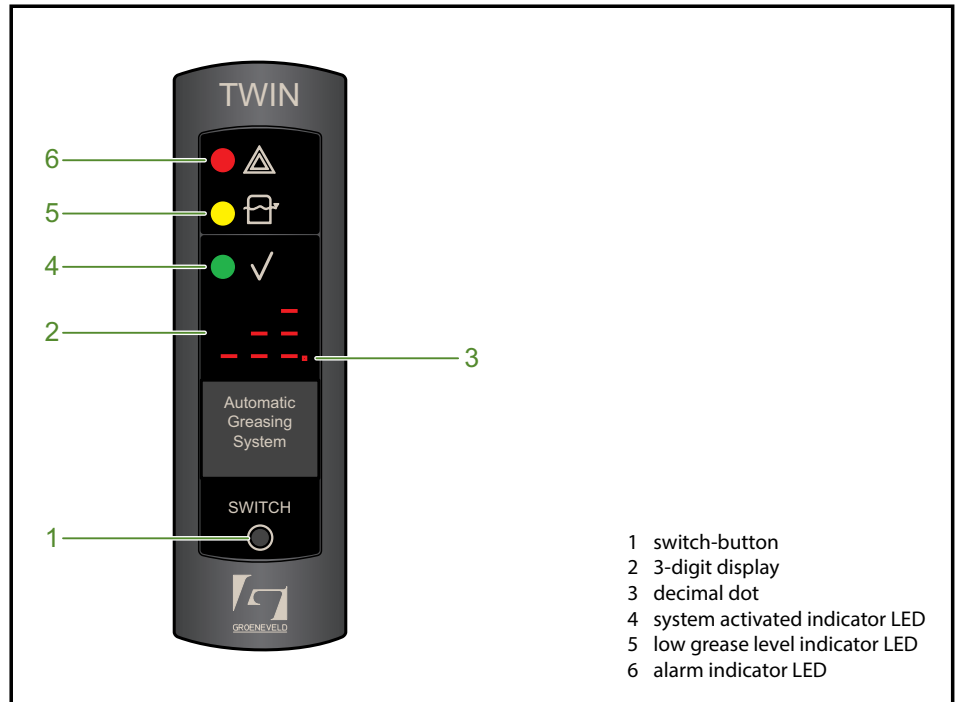

fig. 3.17
With the switch-button (1) the desired operating/test mode can be selected and also errors can be reset (see fig. 3.17). The Twin-3 display is equipped with a 3-digit display (2). Herewith errors, the active duty mode and test mode (if applicable) can be displayed. The decimal dot (3) indicates whether the interval timer remains or is on standby (see paragraph 3.7.2). The green LED (4) indicates that the system is activated. The yellow LED (5) indicates when the minimum grease level has been reached. The red LED (6) indicates a malfunctioning.